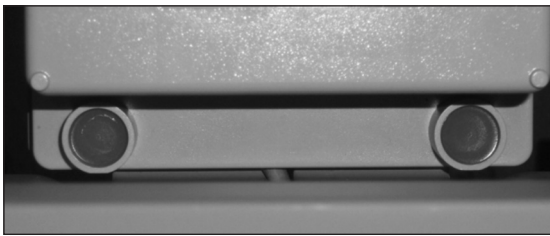

Figure 7.27 Example - Red tamper seals installed
- Once all hardware is tightened the red tamper seals (supplied) can be installed on the Endpoint Module as shown at Figure 7.27 Example.